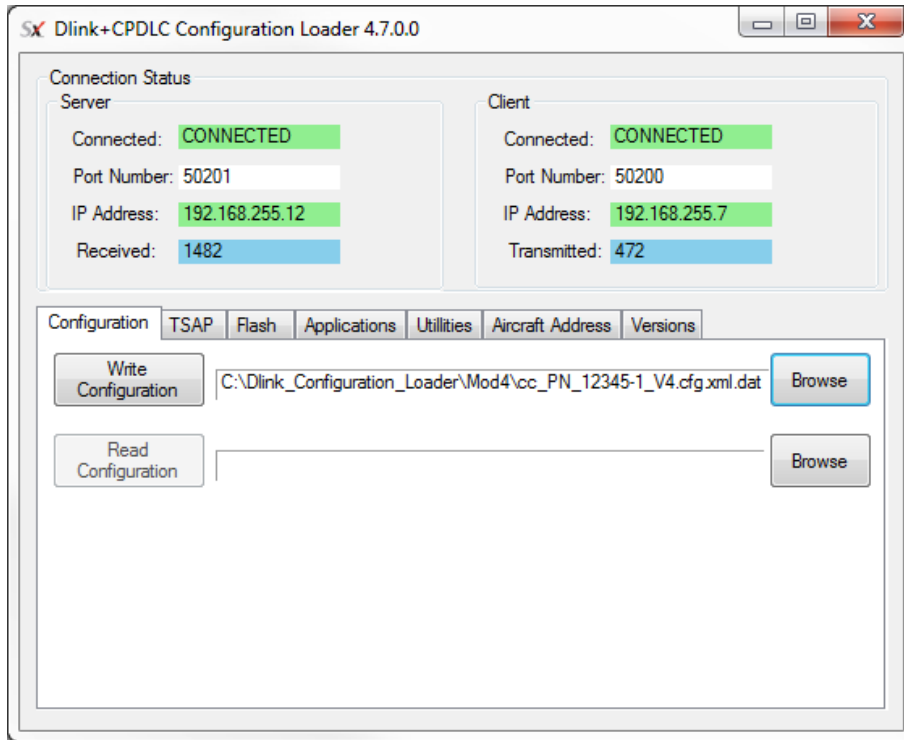

Figure 2 – Configuration Tab
- (8) Go to the Configuration tab of the Dlink_Configuration_Loader.exe. (see Figure 2) Click Browse on the Write Configuration Line and navigate to C:\Dlink_Configuration_Loader\Mod4. Open the customer Mod 4 configuration for your airline and this aircraft. Click Write Configuration.